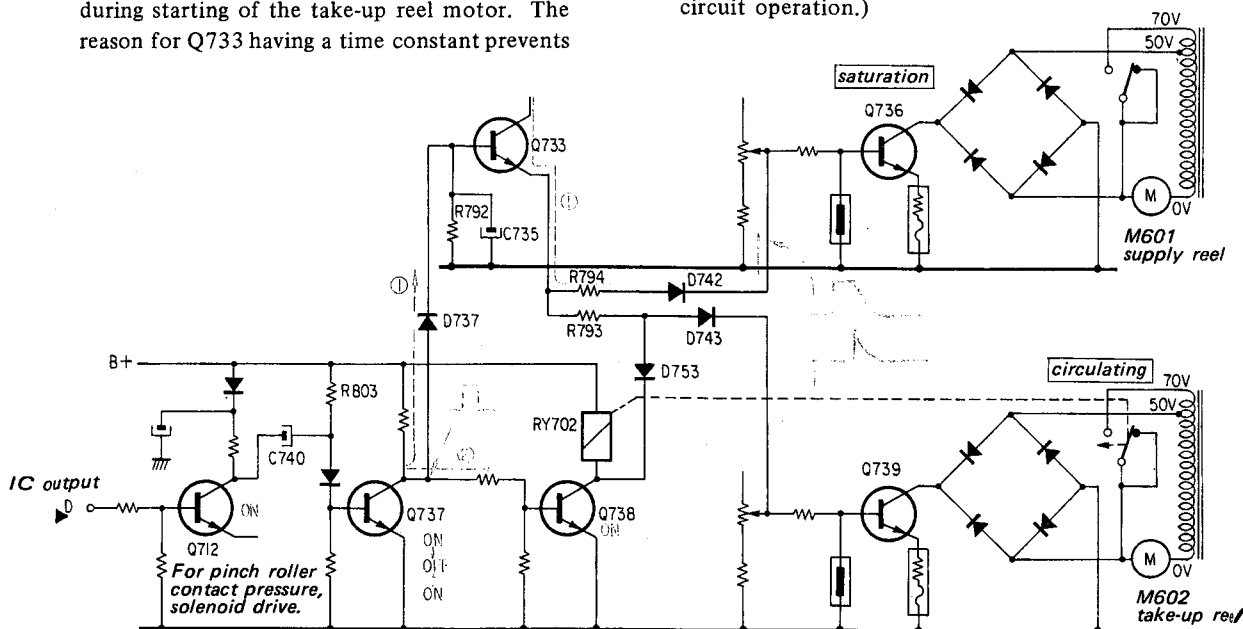

Fig. 5
5. Reel Motor Starting Circuit (Refer to Fig. 5)